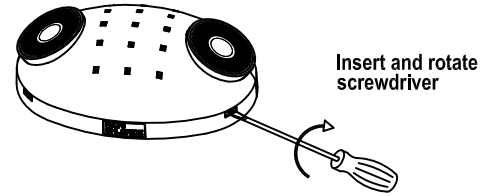

Fig 1
1. Insert a flat blade screwdriver into the two slots and pry to remove the front cover from the back plate (see Fig 1).